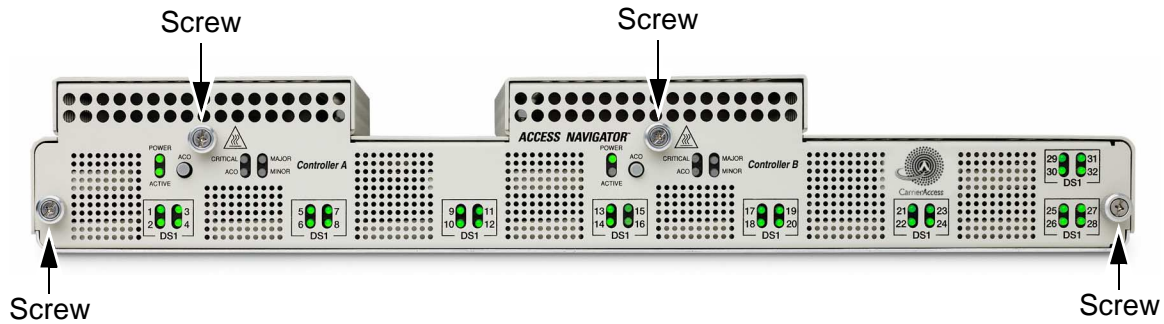

Figure 16-9. Location of Front Panel Cover Screws
1. Loosen captive thumbscrews on front cover (see Figure 16-9).